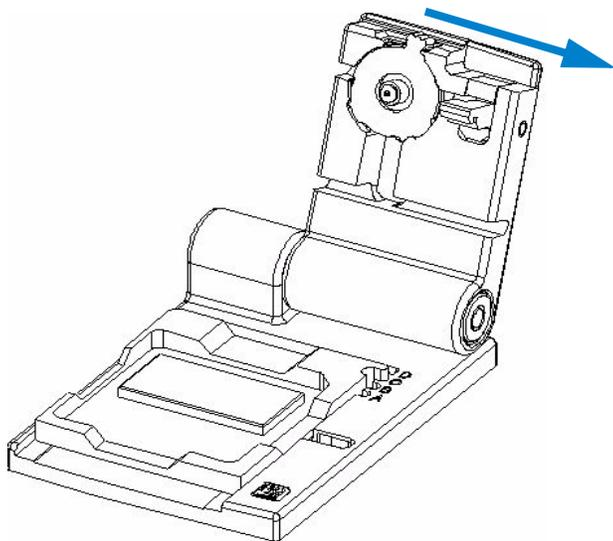

Figure 11 Fixing the Syringe Adapter
- 6 Insert the mounting ring and move it to the right in order to fix the syringe adapter as shown in Figure 11, “Fixing the Syringe Adapter”.